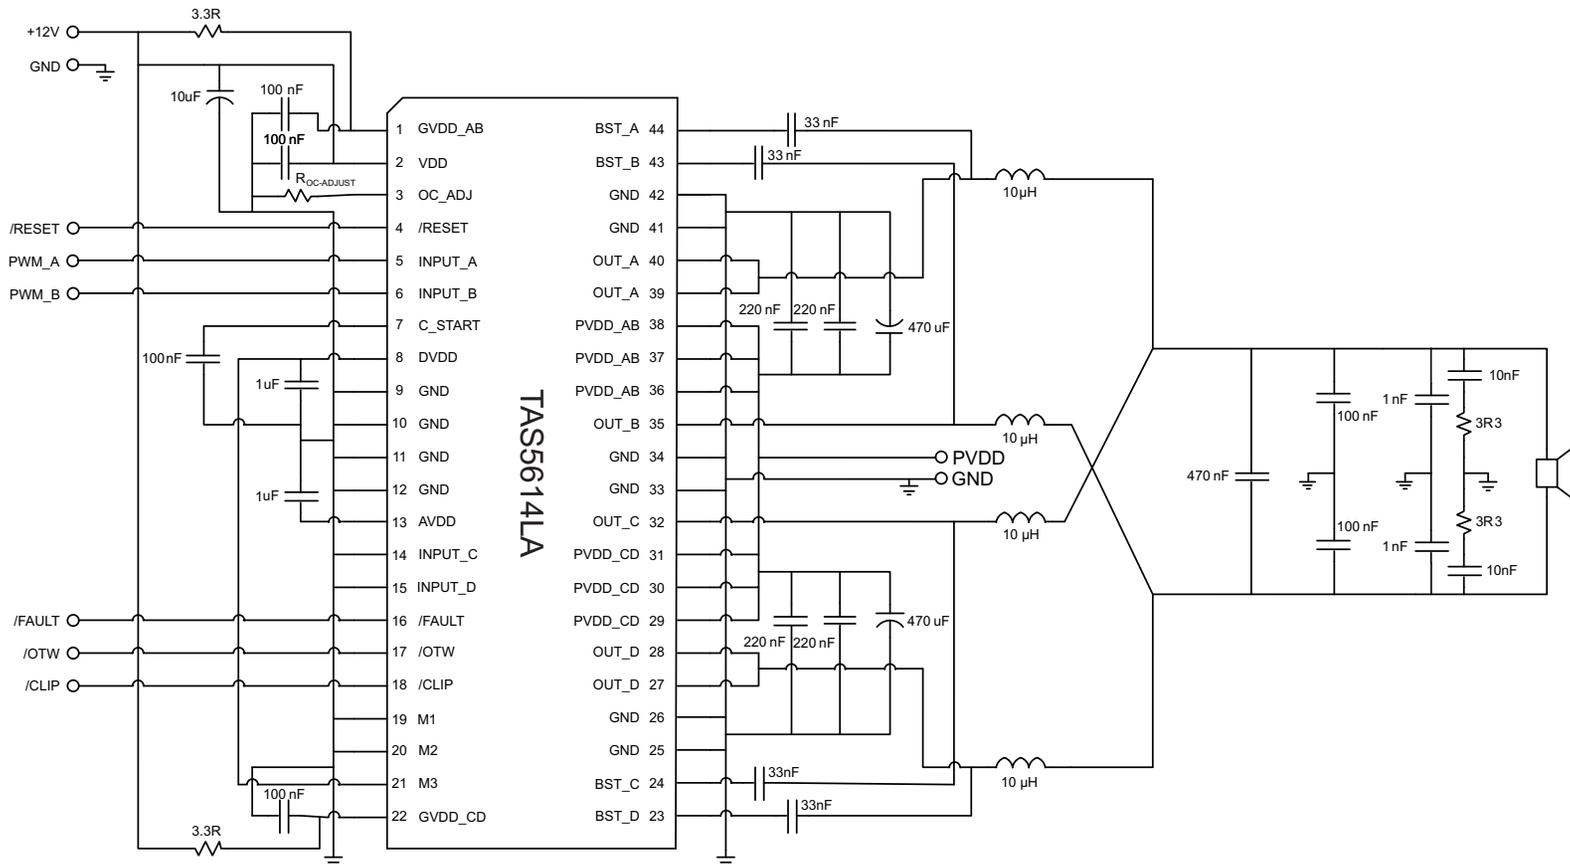

Figure 22. Typical Differential (2N) PBTL Application With AD Modulation Filter
See Figure 22 for application schematic. In this application, one differential PWM input is used with AD modulation from the PWM modulator such as the TAS5558. AD modulation scheme is defined as PWM(+) is opposite polarity from PWM(-). The output PBTL configuration is often used to drive lower impedance load such as a subwoofer.
- Pins 27, 28, 32, 35, 39, 40 - Output pins from half-bridges A, B, C, and D. Connect appropriate bootstrap capacitors and differential LC filter as shown in Figure 22.
- Pins 29, 30, 31, 36, 37, 38 - Power supply pins to half-bridges A, B, C, and D. A and B form a full-bridge and C and D form another full-bridge. A 470-uF bulk cap is recommended for each full-bridge power pins. Two 0.22-μF decoupling capacitors are placed on each full-bridge power pins. See Figure 22 for details.